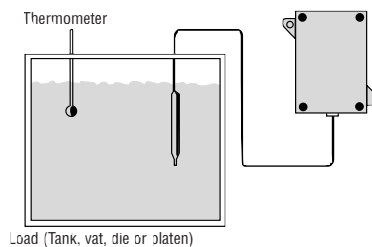

Figure 13
2. With the aid of an accurate thermometer or other temperature measuring device, recalibration may be performed within the process as in Figure 13.